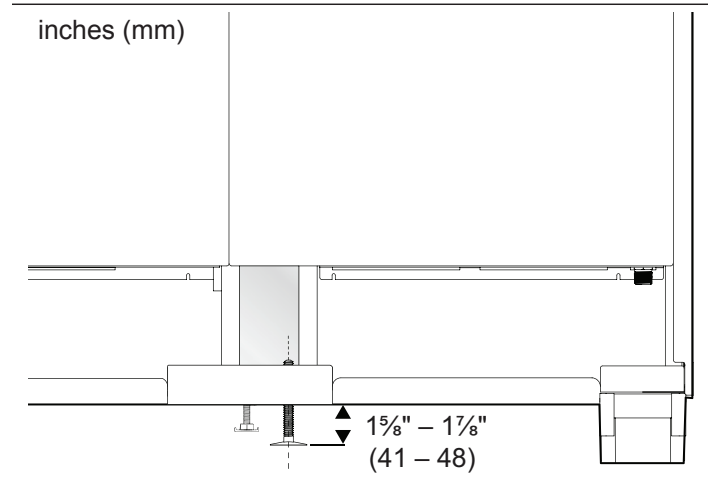

Figure 8: Anti-tip Bolt
1. Insert the $2\frac{1}{4}$ " (57 mm) anti-tip bolt into the bottom of the hole vacated by the center, rear pallet bolt (Figure 8).
2. Finger tighten the anti-tip bolt. Allow $1\frac{5}{8}$ " – $1\frac{7}{8}$ " (41 – 48 mm) clearance for the anti-tip bolt head to slide into the anti-tip bracket once the range is pushed into place (Figure 8).